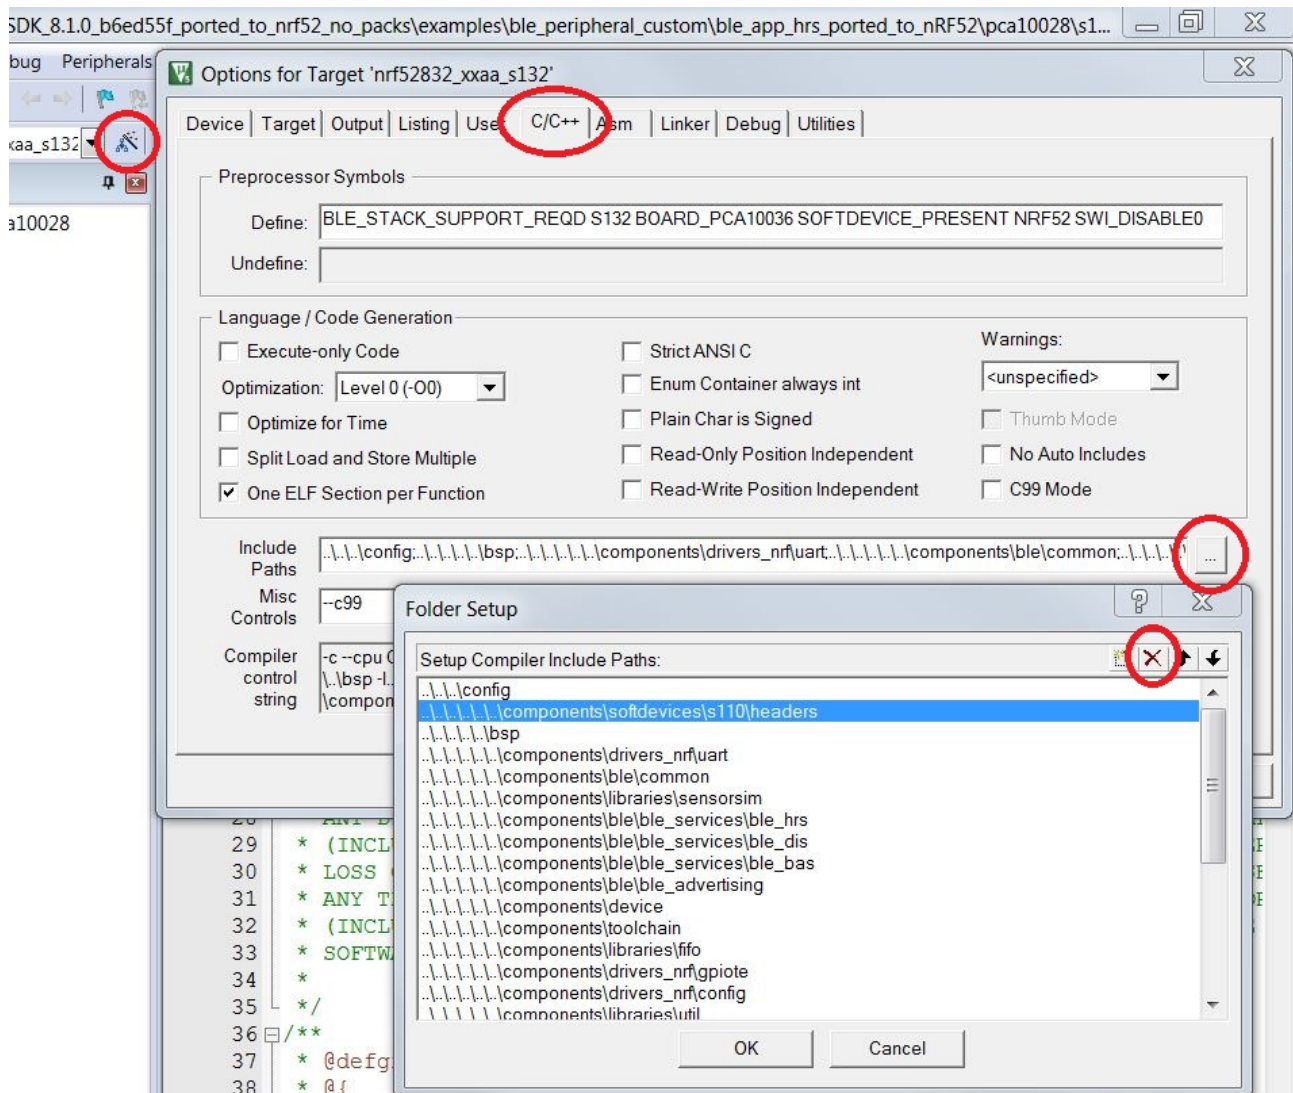

Figure 5: Removing the reference to S110 specific headers
8. Remove the reference to S110 specific headers in `\components\softdevice\s110\headers`, as shown in Figure 5: Removing the reference to S110 specific headers on page 14.